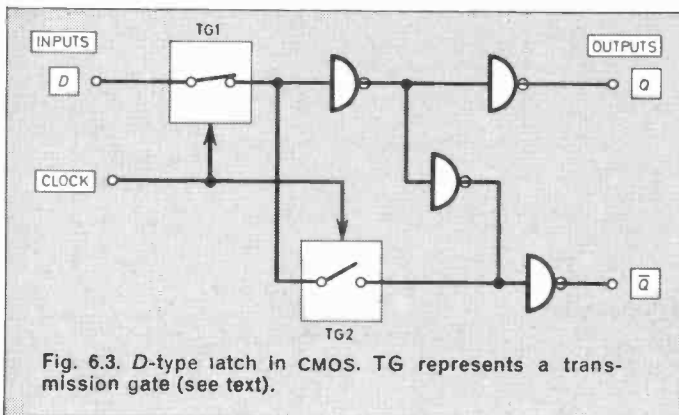
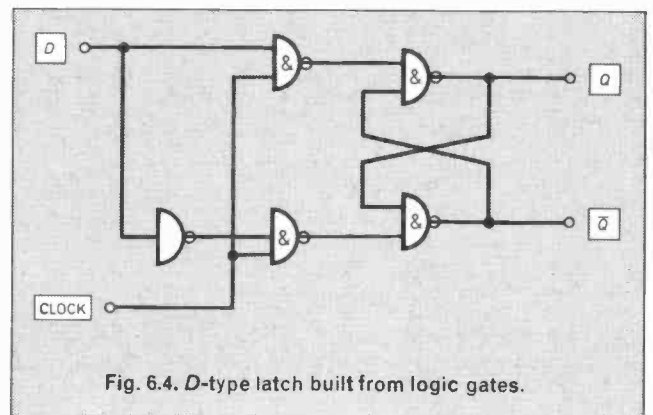

Fig. 6.3. D-type latch in CMOS. TG represents a transmission gate (see text).
Fig. 6.4. D-type latch built from logic gates.
In Fig. 6.3 a latch is built from four NOR gates and two transmission gates. We will consider the latter in more detail in Part 8 of this series. For the moment, think of the transmission gate (TG) as a switch that can be turned on or off according to the state of a control voltage.
Here the control voltage is applied to the *clock* input. When the clock input is high, TG1 is closed and TG2 is open, as shown in Fig. 6.3. In this state, output Q is the same as input D, since it is D, twice inverted. Output \bar{Q} is D inverted three times, so is the invert of D. Thus the circuit of Fig. 6.3 has a similar action to the more conventional flip-flop of Fig. 6.4, though it operates in a rather different way.
becomes isolated from the output side of the circuit. In the CMOS circuit (Fig. 6.3) TG1 opens and TG2 closes. The outputs remain latched in the state they were at the instant the clock input was made low. In Fig. 6.4, the low clock input to each NAND gate, ensures that their output remains high whatever the state of D. This being so, the flip-flop can no longer be made to change state.
The 4042 i.c. contains four D-type latches of the kind shown in Fig. 6.3. It also has a "polarity" input which causes the signal at the clock input to be inverted before it goes to the transmission gates. If "polarity" is 0